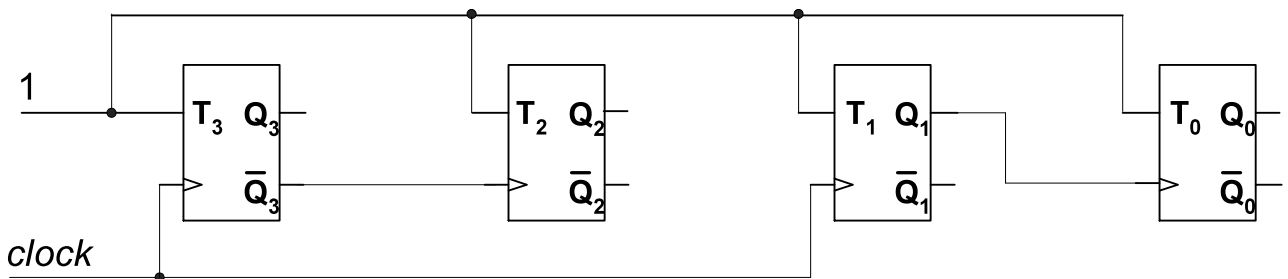

Figure 7- Circuit for question 12.
12. In Figure 7, if the current state is $Q_3Q_2Q_1Q_0=0101$, then after the next positive edge of the **clock** signal the new state will be: